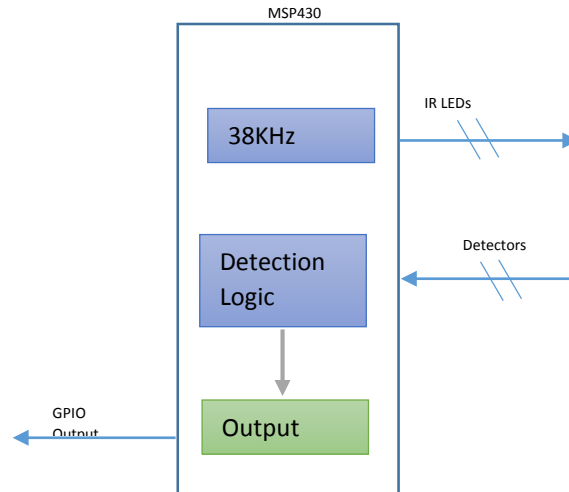

Figure 2 – Firmware Block Diagram
- Figure 2 – Firmware Block Diagram 3